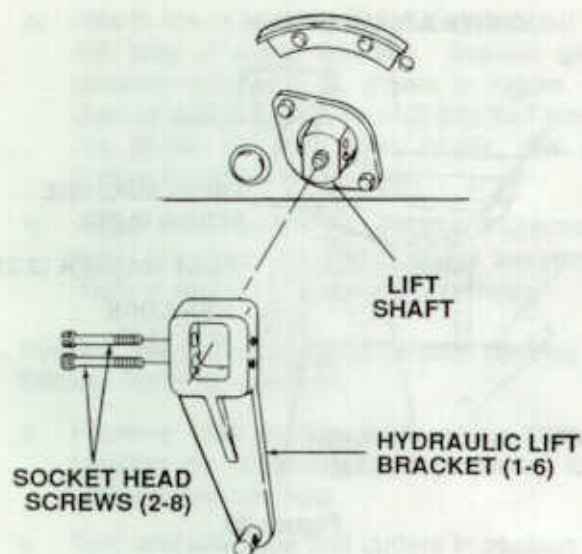

Figure 33
- a. Refer to Figure 33 and slide hydraulic lift bracket (1-6) onto lift shaft.